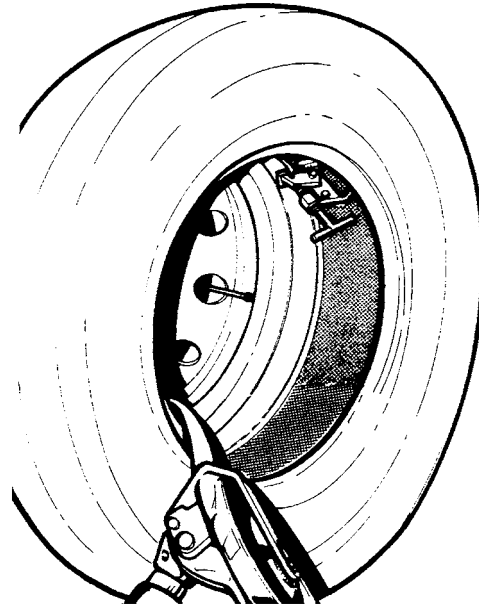

Fig.32
1. Hang the inner bead of the tire on the mounting clamp (fig.32).